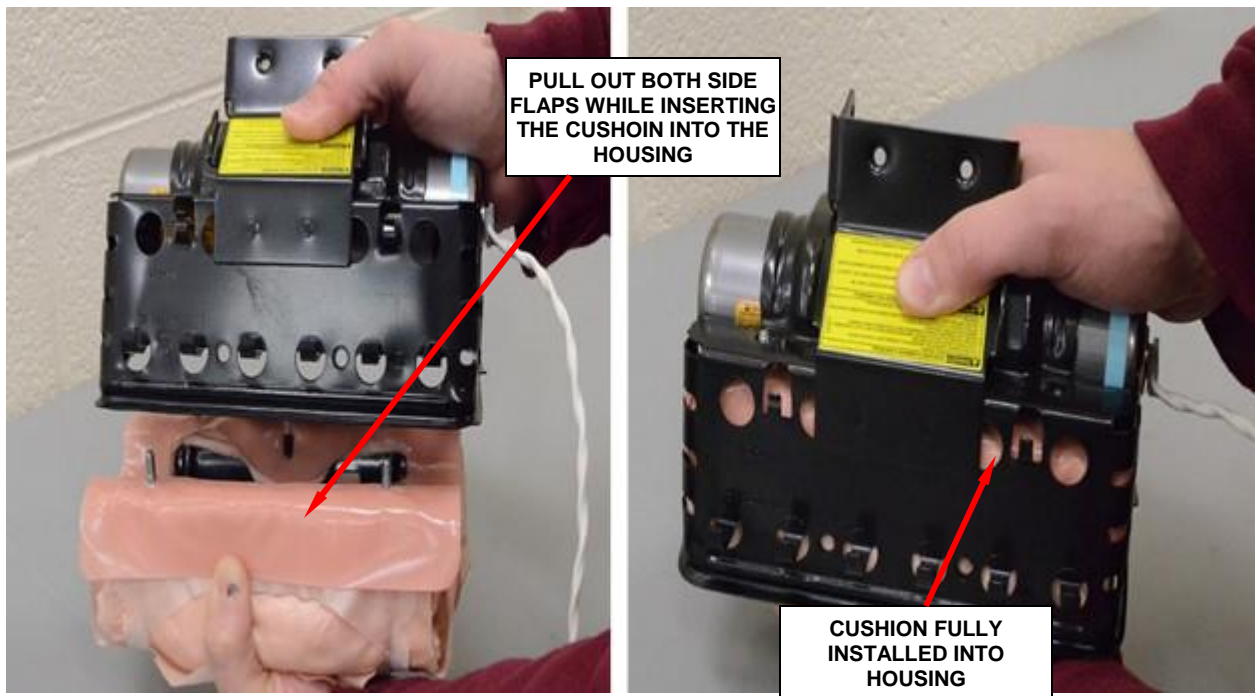

Figure 13 - Side Flaps Must Be Held Out
- k. Insert the cushion, pulling out both side flaps (Figure 13).